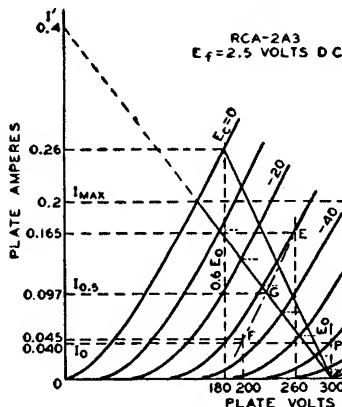
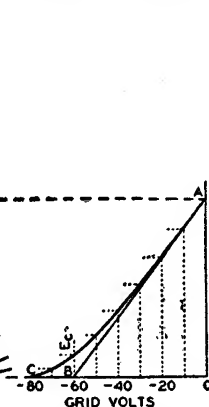

Fig. 25—Graphic calculations for class AB_1 amplifier using the 2A3 power triode.
Fig. 26—Instantaneous curve for class AB_1 amplifier.
point D in Fig. 25. Its position is not affected by the operating grid bias provided the plate-to-plate load resistance remains constant.
In general, for any load line through point D, Fig. 25, the plate-to-plate load resistance in ohms of a push-pull amplifier is $R_{pp} = 4E_o/I'$, where I' is the plate-current value in amperes at which the load line as projected intersects the plate-current axis, and E_o is in volts. This formula is another form of the one given under push-pull class A amplifiers, $R_{pp} = 4(E_o - 0.6E_o)/I_{max}$, but is more general. Power output $= (I_{max}/\sqrt{2})^2 \times R_{pp}/4$, where I_{max} is the peak plate current at zero grid volts for the load chosen. This formula simplified is $(I_{max})^2 \times R_{pp}/8$. The maximum-signal average plate current is $2I_{max}/\pi$ or $0.636 I_{max}$; the maximum-signal average power input is $0.636 I_{max} \times E_o$.
Example: Fig. 25 illustrates the application of this method to a pair of 2A3's operated at $E_o = 300$ volts. Each tube has a plate-dissipation rating of 15 watts. The method is to erect a vertical line at 0.6 E_o , or at 180 volts, which intersects the $E_o = 0$ curve at the point $I_{\max} = 0.26$ ampere. Using the simplified formulas, the following values are obtained:
The operating bias and the zero-signal plate current may then be found by use of a curve which is derived from the plate family and the load line. Fig. 26 is a curve of instantaneous values of plate current and dc grid-bias voltages taken from Fig. 25. Values of grid bias are read from each of the grid-bias curves of Fig. 25 along the load line and are transferred to Fig. 26 to produce the curved line from A to C. A tangent to this curve, starting at A, is drawn to intersect the grid-voltage abscissa. The point of intersection, B, is the operating grid bias for fixed-bias operation. In the example, the bias is —60 volts. Refer back to the plate family at the operating conditions of plate volts = 300 and grid bias = —60 volts; the zero-signal plate current per tube is seen to be 0.04 ampere.
tortion in a class AB₁ amplifier using triodes is very small and is largely canceled by virtue of the push-pull connection. Third-harmonic distortion, however, which may be larger than permissible, can be found by means of composite characteristic curves. A complete family of curves can be plotted, but for the present purpose only the one corresponding to a grid bias of one-half the peak grid-voltage swing is needed. In the example, the peak grid voltage per tube is 60 volts, and the half value is 30 volts. The composite curve, since it is nearly a straight line, can be constructed with only two points (see Fig. 25. These two points are obtained from deviations above and below the operating grid and plate voltages.
These steps provide points at 260 volts and 0.165 ampere (E), and at 200 volts and 0.045 ampere (F). A straight line through these points is the composite curve for a bias of -30 volts, shown as a long-short dash line in Fig. 25. At the intersection of the composite curve and the load line, G, the instantaneous composite plate current at the point of one-half the peak signal swing is determined. This current value, designated $I_{0.5}$ and the peak plate current, I_{max} , are used in the following formula